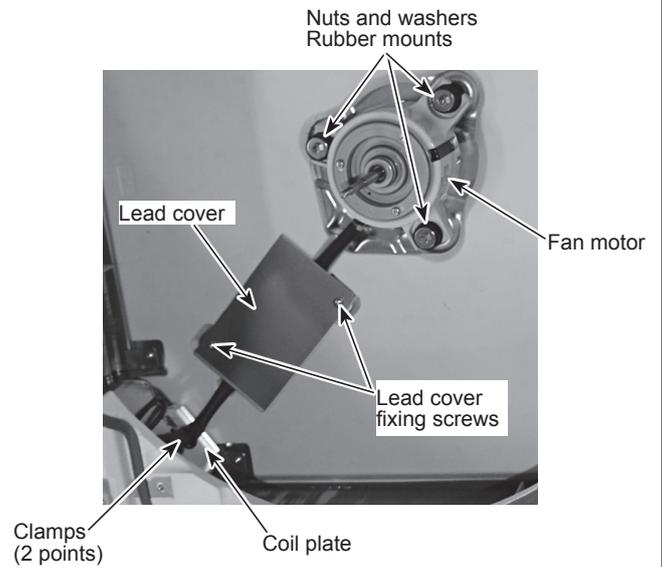

Figure 4
- (1) Remove the electrical box fixing cover. (See Photo 1)
- (2) Disconnect the connector for vane motor (CNV). (Refer to procedure 5)
- (3) Loosen the 4 corner panel fixing screws (tapping screw 4×16). (See Figure 4)
- (4) Slide the corner panel to the direction of the arrow ①, and remove the corner panel. (See Figure 4)
- (5) Remove the 4 installation screws (M5×28). (See Photo 11)
- (6) Release the 2 temporary hanging hooks to remove the grille. (See Photo 12)